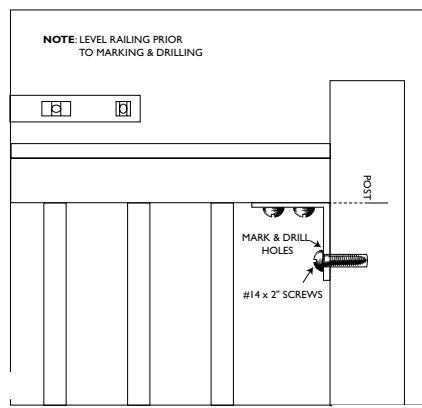

Figure 7
7. LEVEL AND ATTACH RAILING (see Figure 7)